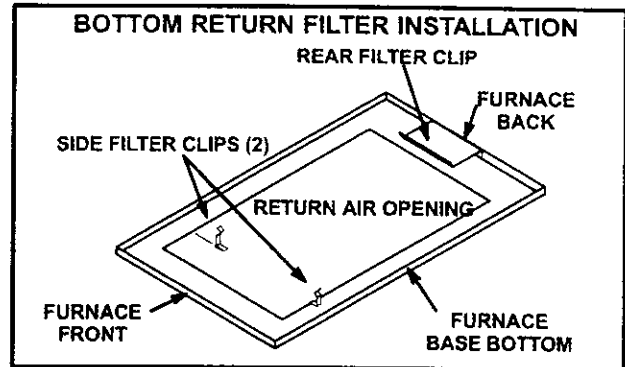

FIGURE 4
This unit is not equipped with a filter or rack. A field-provided high-velocity filter is required for the unit to operate properly. A filter must be in place any time the unit is operating. The unit does include filter clips for installation of a field-provided, internally installed filter. See figure 4.
- 2 - Install filter clips, provided with unit, by slipping folded section of clip on edge of bottom opening. See figure 4.